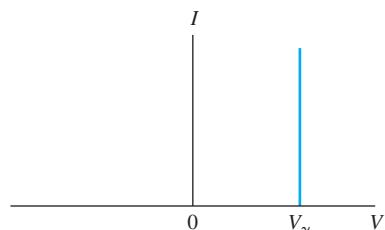
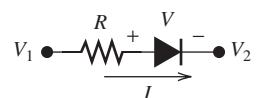

FIGURE 8.6 Diode characteristics: practical model.
FIGURE 8.7 A simple diode circuit.
Instead of using the exact relationship between voltage and current to analyze circuits that contain diodes, approximate models are used. These models simplify the process of analysis of diode circuits. One of these models is the *practical model*, which mimics practical situations. The I – V characteristics of the practical model are shown in Figure 8.6. In this figure, the effect of reverse saturation current is ignored. As discussed earlier, this current is very small (on the order of microamperes) and can be easily ignored in many practical problems. Figure 8.7 represents the diode and its voltage and current. In this figure, the voltage on the anode of the diode and cathode are V_1 and V_2 , respectively. Therefore, the voltage across the diode corresponds to: $V = V_1 - V_2$.
Accordingly, the current–voltage (I – V) model of Figure 8.6 is described as follows:
- Referring to Figure 8.7, $V_S = -10 \text{ V}$ means $V_1 - V_2 = -10 \text{ V}$. Therefore, the diode is reverse biased (OFF) and the current flowing through it $I = 0$ and the voltage across the diode $V = -10 \text{ V}$.
Method 1: Because the voltage available to directly drive the diode is unknown (i.e., $V_1 - V_2$ of Figure 8.7), an assumption must be made of the status of the diode (ON or OFF). This assumption is used to solve the problem, and then the validity of the assumption can be checked by observing the direction of the diode current. For example, when assuming the diode is ON, the assumption will be valid if the current through the diode flows from the anode to the cathode, because that situation is consistent with an ON diode.